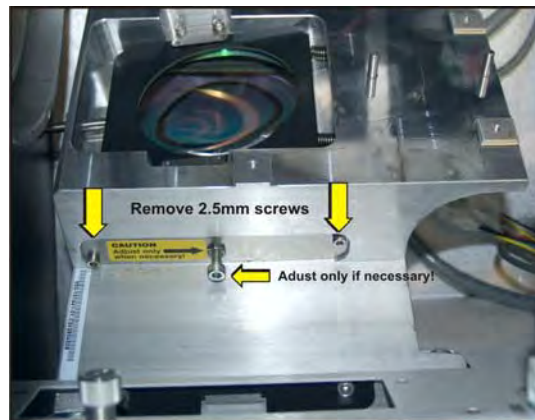

Figure 5-30 Remove YNF
5. Remove the two, 2.5mm screws securing the YNF to the IOS. Loosen the center nut if necessary. **(Figure 5-30)**